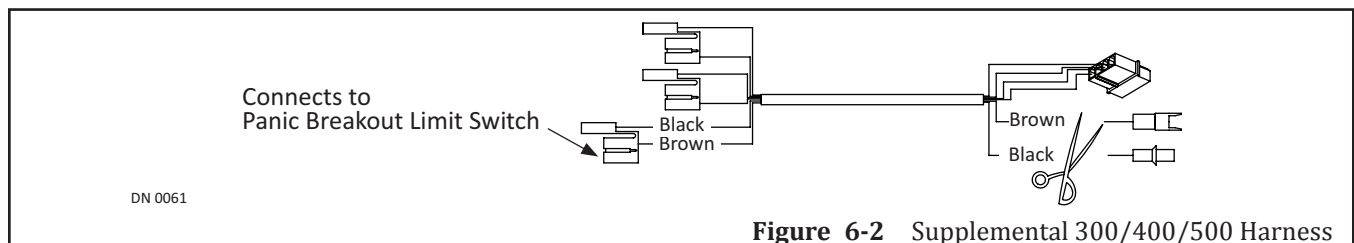

Figure 6-2 Supplemental 300/400/500 Harness
4. Go to Dip Switch (2). Ensure switch is in the ON position (factory default is ON).
6. Cut white plastic connectors off ends of Brown wire and Black wire. Please see Figure 6-2.